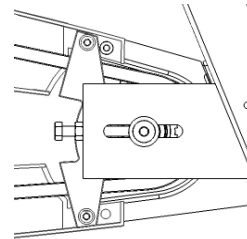

Figure 1.
2. With an adjustable wrench, loosen the two nuts on both sides of the flywheel (Figure 1 & 2).
3. Tighten the two bolts that go through the frame, moving the flywheel forward by turning clockwise, until there is approximately 3/16" of slack in the chain (Figure 1 & 2).